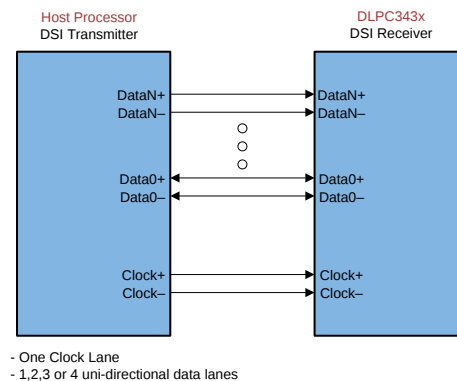

Figure 18. DSI - High Level View
The DPP343x input interface supports the industry standard DSI Type-3 LVDS video interface up to 4-lanes. DSI is a source synchronous, high speed, low power, low cost physical layer. The DSI-PHY unit is responsible for the reception of data in High speed (HS) or reception / transmission of data in Low Power (LP) mode for Unidirectional Data Lanes. Point-to-point lane interconnect can be used for either data or clock signal transmission. The high speed receiver is a differential line receiver while the low-power receiver is an un-terminated, single-ended receiver circuit. Figure 18 shows a single lane module with PPI Interface.